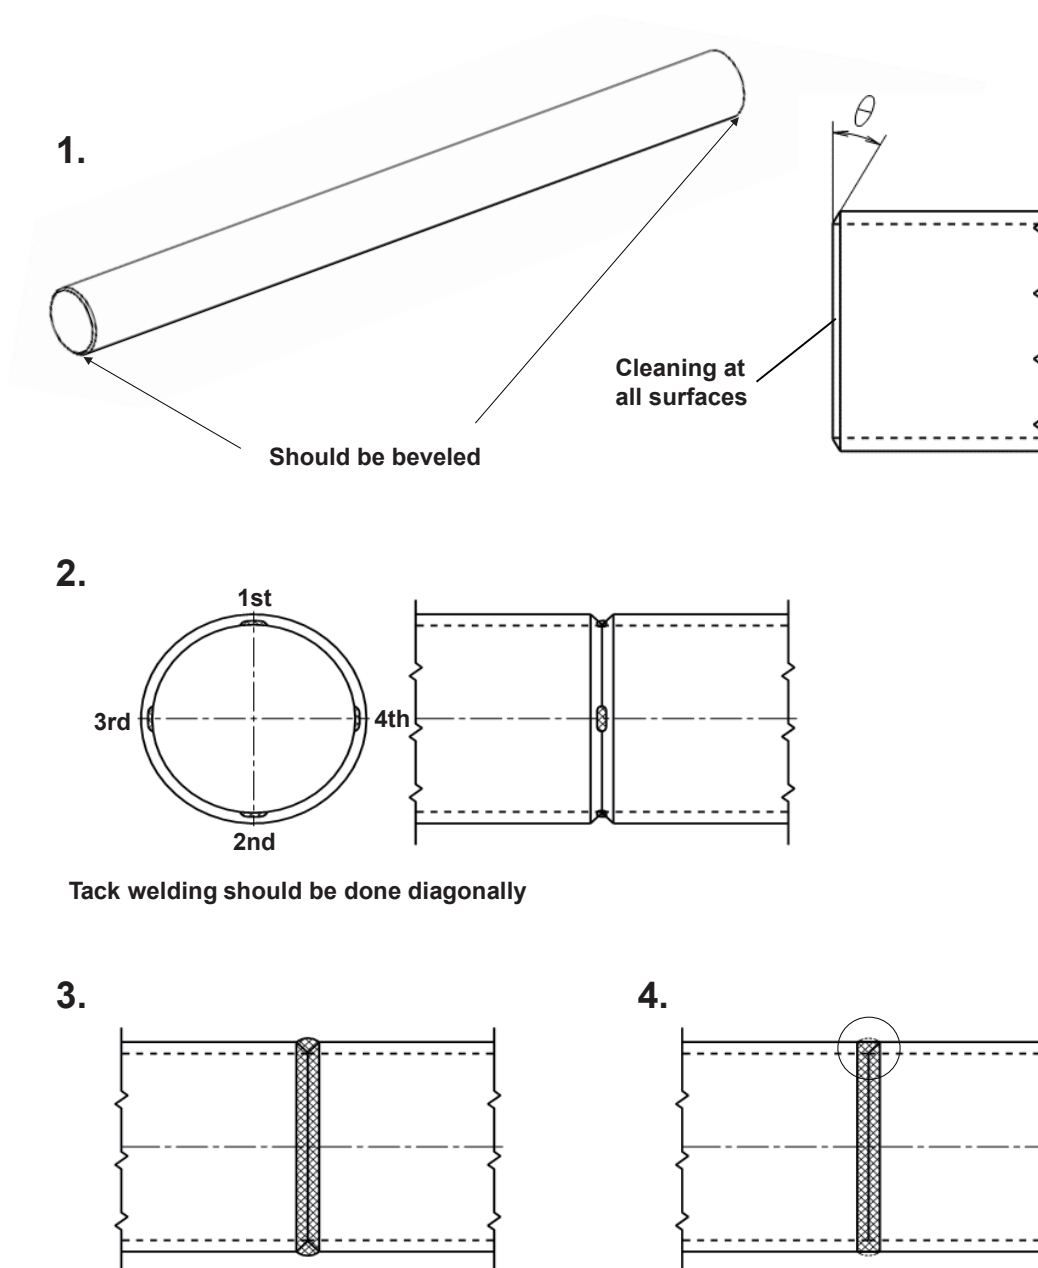

Figure12: Casings Welding procedure
1. Bevel both ends of the casing to be welded at an angle around 60 degrees (θ in **Figure12** should be 30 degrees). Ensure that all surfaces to be welded are perfectly clean and free from any contamination including moisture.